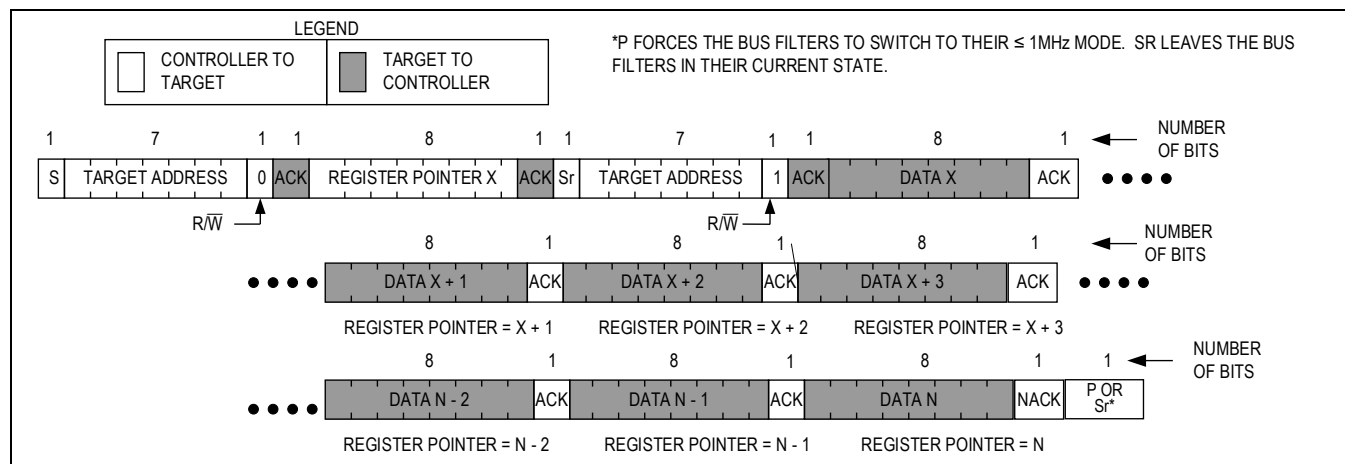

Figure 19. Reading from sequential registers
Figure 19 shows the protocol for reading from sequential registers. This protocol is similar to the *Read Byte* protocol, except that the controller issues an ACKNOWLEDGE (A) to indicate that it requires additional data. When the controller receives all required data, it issues a NOT ACKNOWLEDGE (nA) and a STOP condition (P) to terminate the transmission.